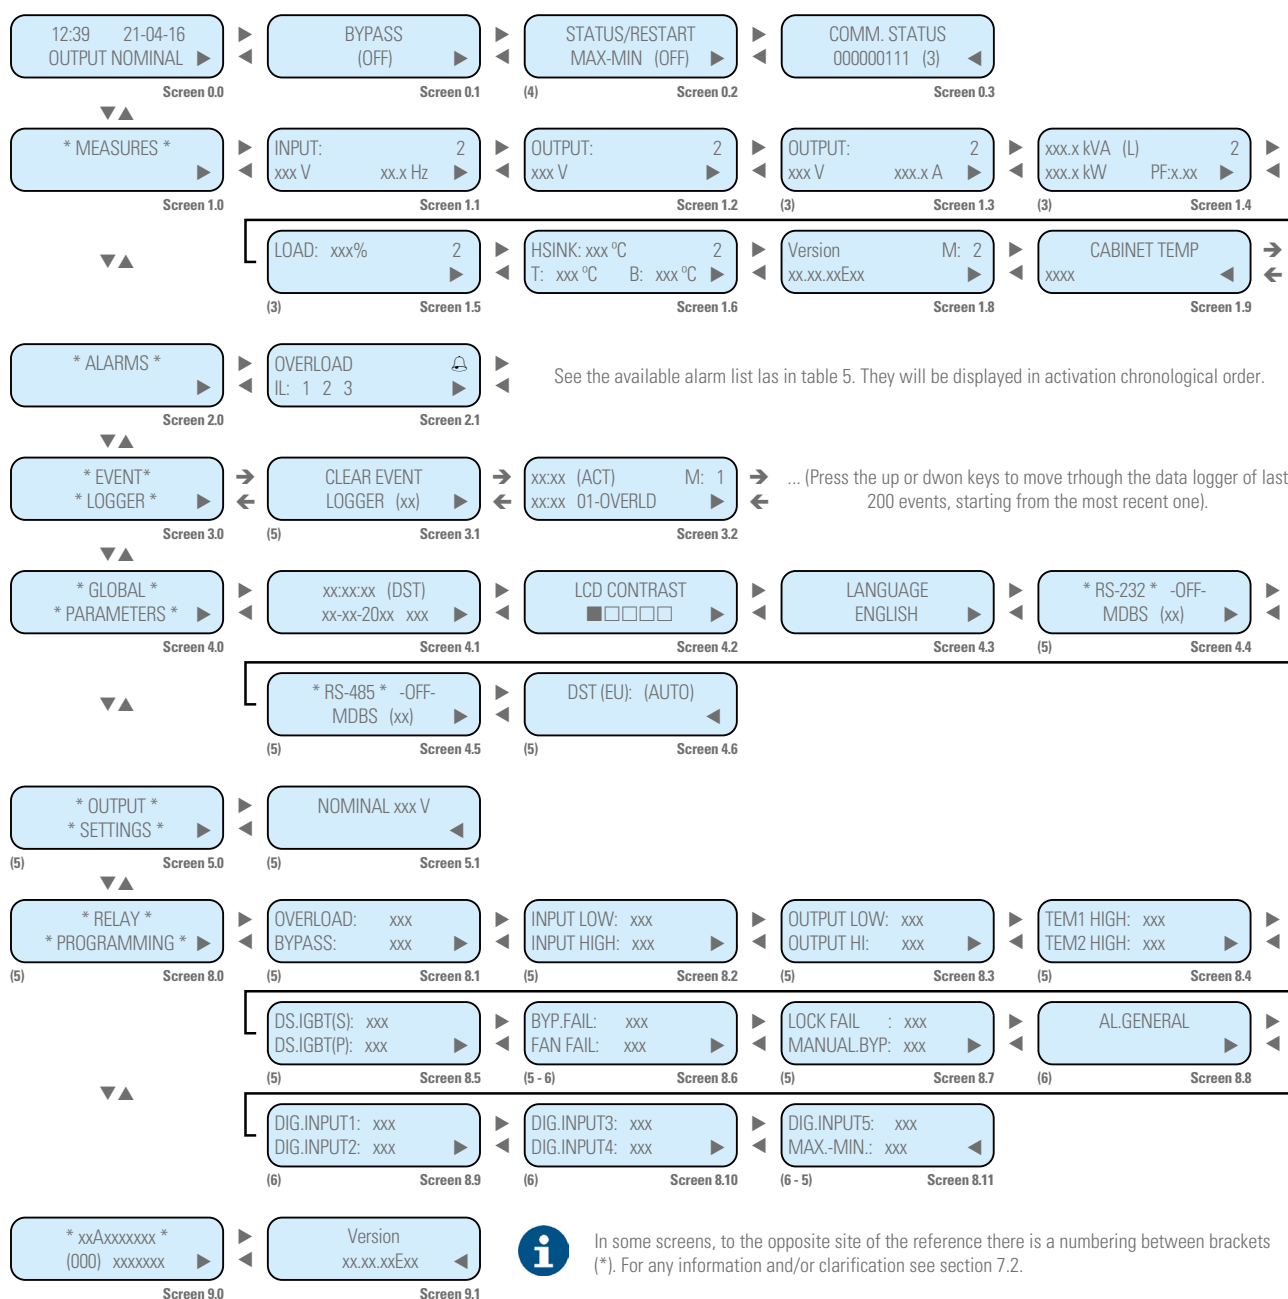

Fig. 20. Screen tree of the control panel (PC).
- Fig. 20 shows the screen map completely exploded and it is shown the basic and advanced user level.
Fig. 20 shows only one alarm as a mere example, but in practice some alarms can be displayed, those ones that are active and ordered in the order of appearance. In table 9, all the possible alarms in the LCD panel are shown.